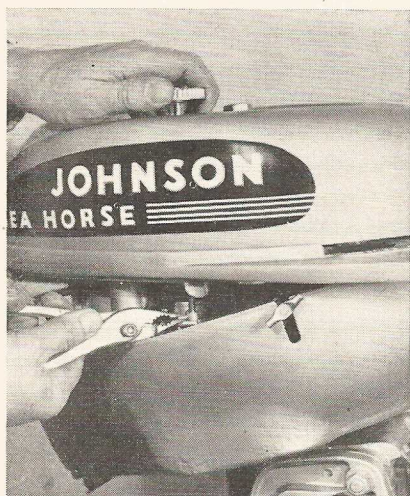

Fig. 18
3. Remove high speed needle and primer, by withdrawing small tapered pin from end of shaft as shown, Fig. 18.